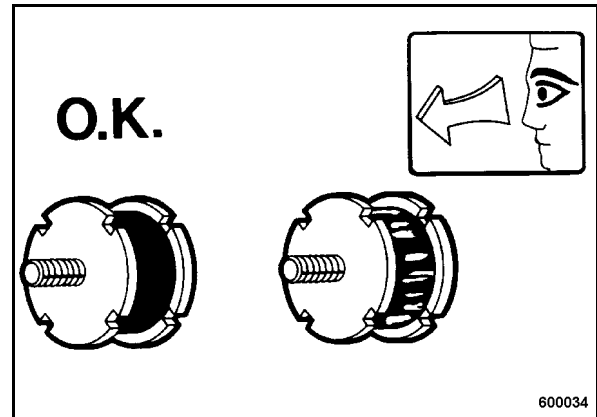

Fig. 68
- Check all rubber buffers (Fig. 68) for tight fit, cracks and damage and replace immediately if damaged.